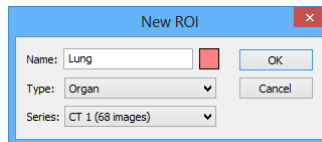

Figure 238 – New ROI dialog
2. The **New ROI** dialog for defining the main properties of the new ROI is then displayed (see Figure 238).